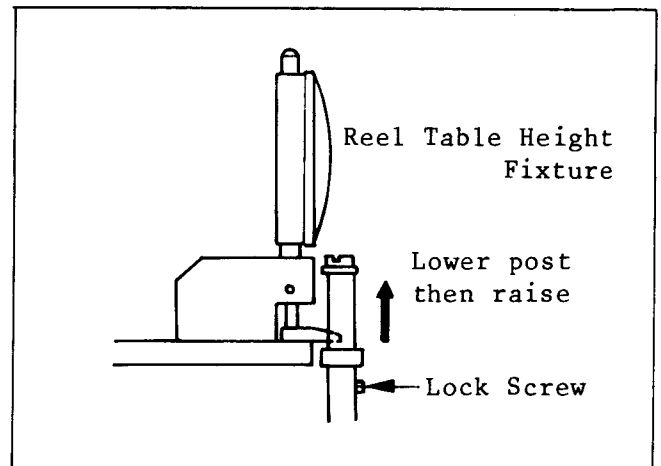

Fig. M21-2 Adj. of Tape Guide Post Height
3. Place the fixture on the Adjustment Plate and fit the scraper to the Adjustment Plate as shown in Fig. M21-2.